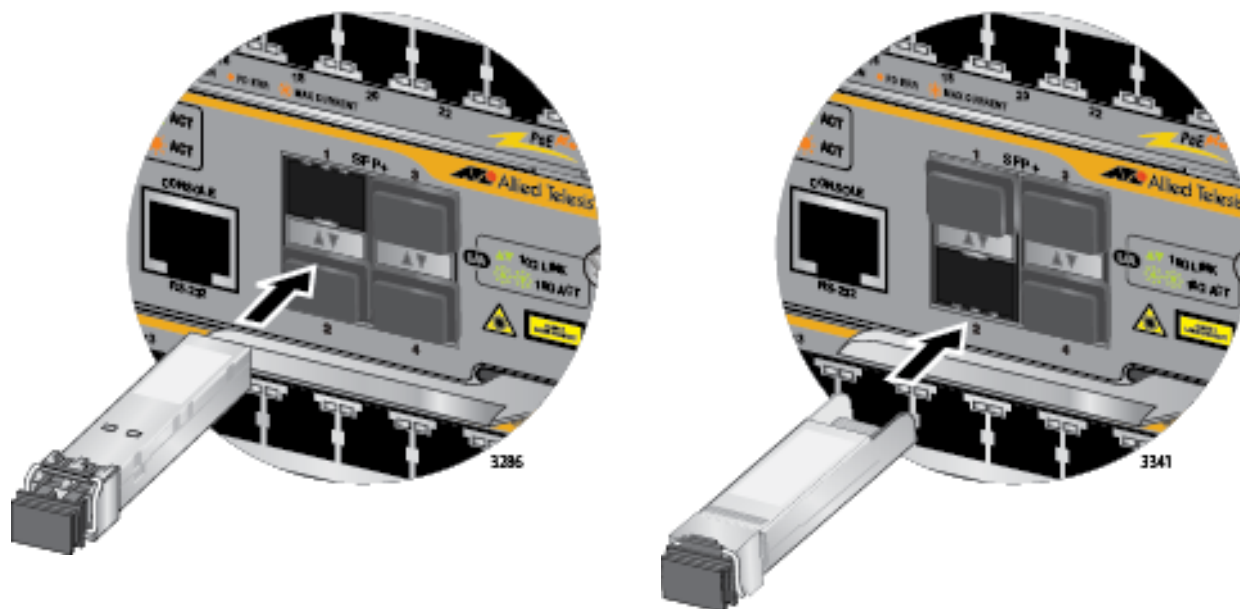

Figure 117. Installing an SFP+ Transceiver in the AT-SBx81CFC960 Controller Fabric Card
3. Slide the transceiver into the slot until it clicks into place, as shown in Figure 117 on page 196.